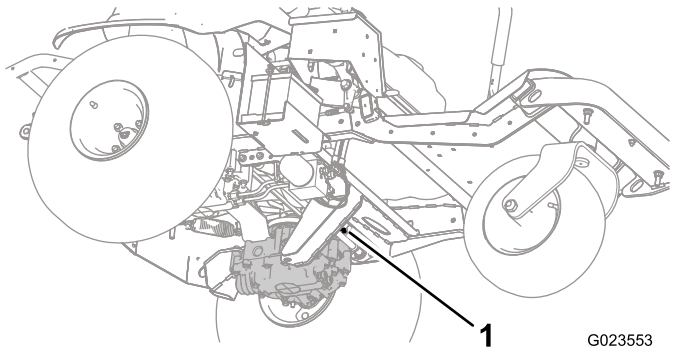
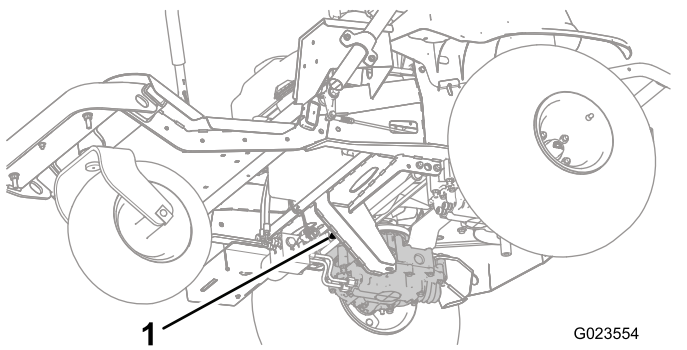
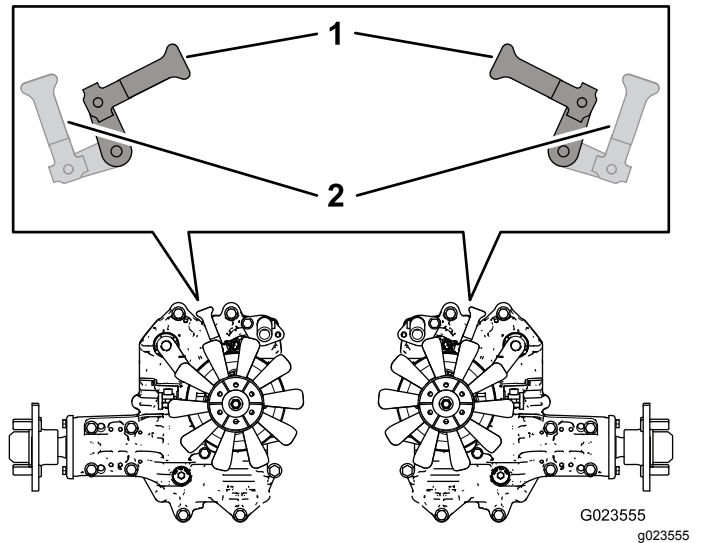

Figure 27
Figure 28
Figure 29
2. From underneath the machine, rotate the bypass-valve levers (Figure 27 and Figure 28) so that they point inward, toward the center of the machine (Figure 29), and disengage the parking brake; refer to Using the Parking Brake (page 21).
3. When you are finished pushing or towing the machine, rotate the bypass-valve levers so that they point toward the front of the machine, to allow the machine to drive (Figure 29).